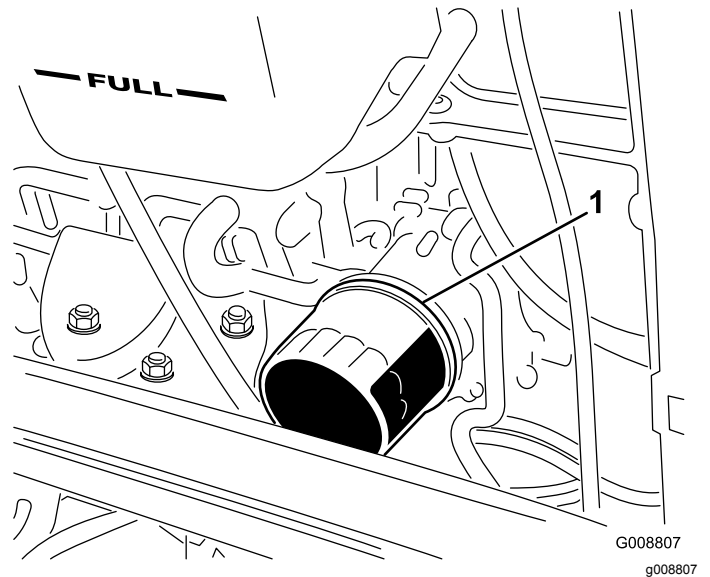

Figure 32
2. Remove the oil filter (Figure 32). Apply a light coat of clean oil to the new filter seal before screwing it on. Do not overtighten.